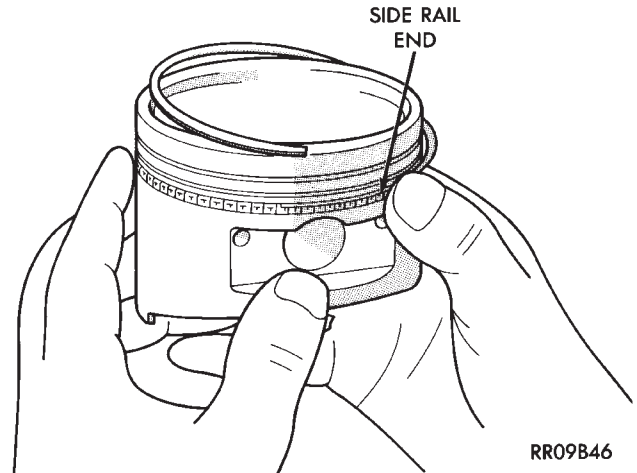

Fig. 9 Side Rail—Installation
(2) Install the side rails (upper rail first, then lower rail) by placing one end between the piston ring groove and the expander. Hold end firmly and press down the portion to be installed until side rail is in position. **Do Not use a piston ring expander** (Fig. 9).